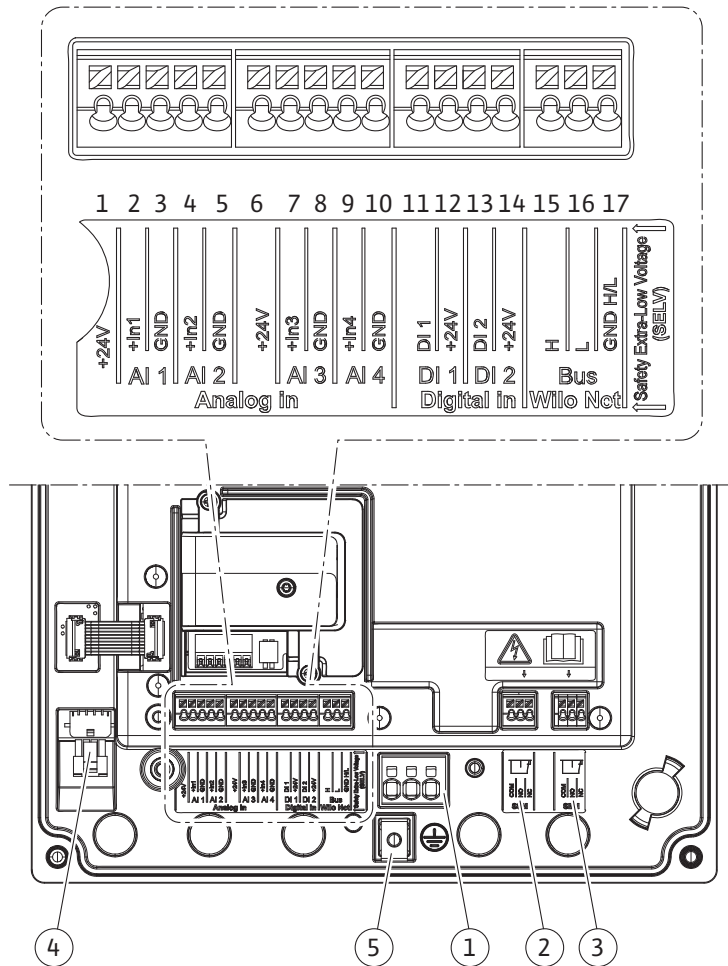

Fig. 19: Overview of terminals in the module
4. Guide the connection cable through the M25 threaded cable gland (Fig. 19, Item 1). Threaded cable gland with the specified torques.